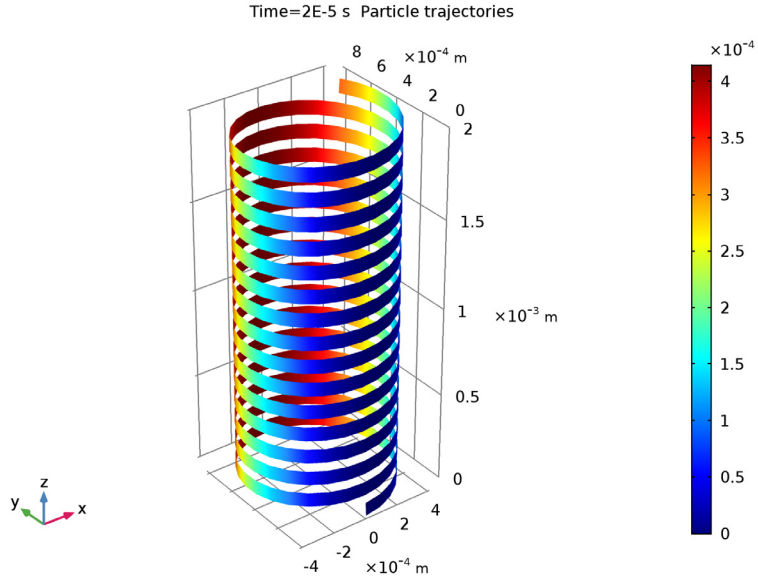

Figure 3: Plot of the particle trajectory for the Newtonian formulation.
- 11** On the **Change in Lateral Position** toolbar, click **Plot**. The plot should look like Figure 3. You can see that the rays do indeed return to their original position after passing through the cloak.